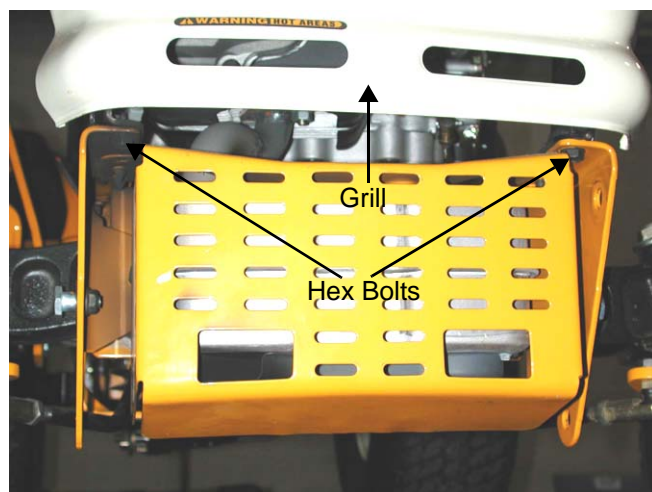

Figure 37.6
- 37.6. Remove the hex bolts securing the front grille assembly to the front frame assembly using a 1/2" socket and extension. See Figure 37.6.